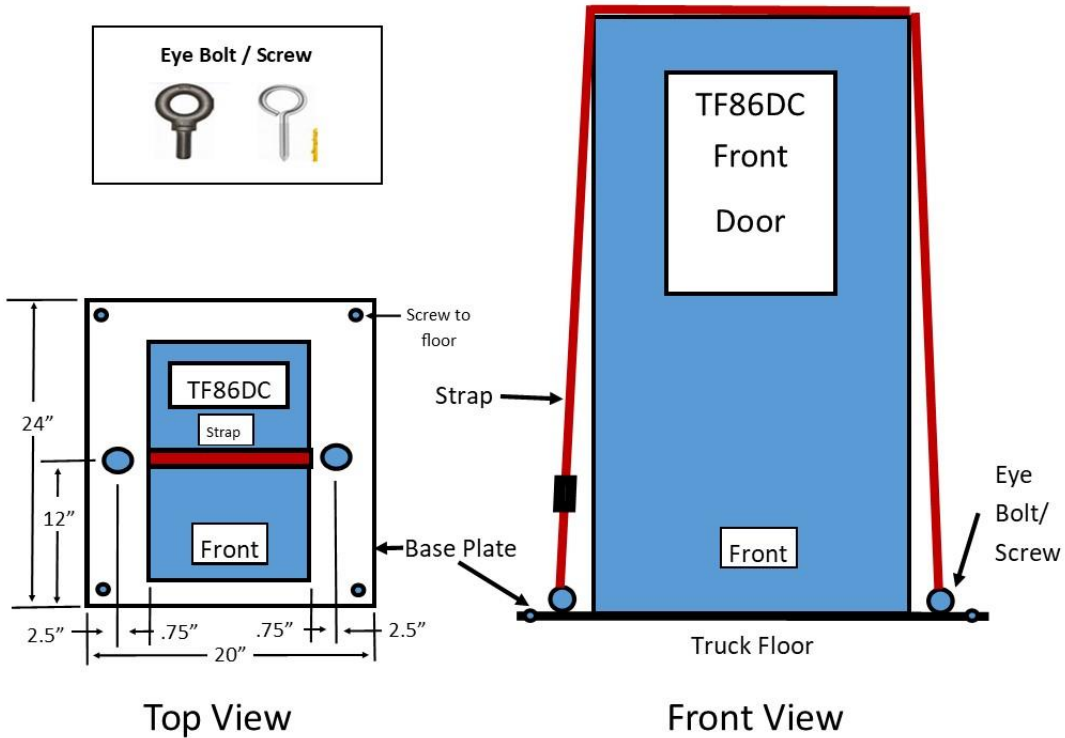

Figure 3.4: Volvo Installation Diagram
The *TF86DC* does not include the OEM provided molded front panels or mounting hardware allowing for an OEM type installation. Tie down straps and hardware are provided by the customer. See "Fig 3.4: Volvo Installation Diagram".
Recommended installation using tie down strap like the FL Cascadia installation. Refer to "Figure 3.4: Volvo Installation Diagram" for details.
2. Drill a hole (size determined by what eye bolt/screw used) each side of the base plate to accommodate the "eye bolt or eye screw". See "Figure 3.4: Volvo Installation Diagram" for recommended measurements. Attach eye bolt/screw.